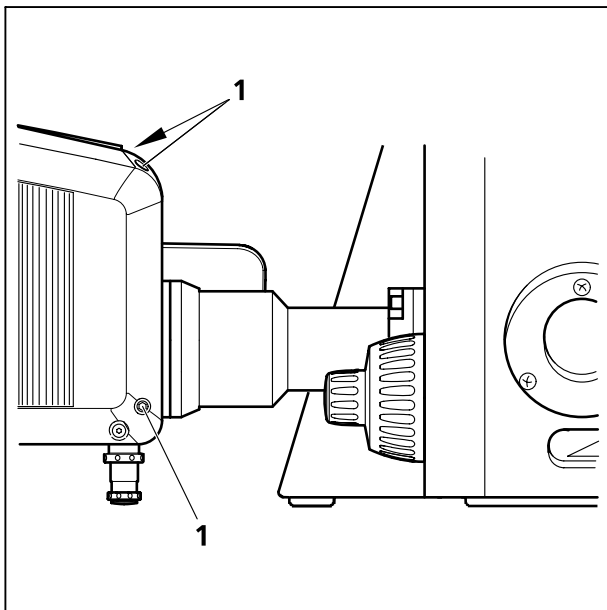
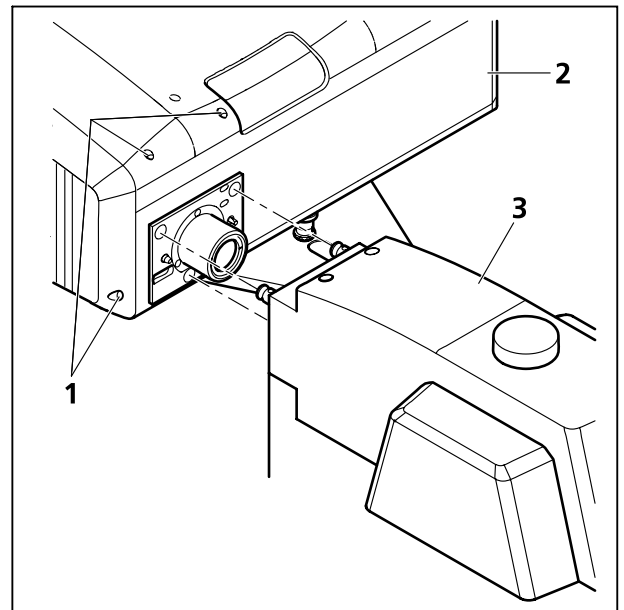

Fig. 7-6 Port connection between LSM and Axio Observer.Z1
Fig. 7-7 Port connection between LSM and Axio Examiner or Axio Imager.Z2
- Loosen the three fastening screws of the LSM 710 (Fig. 7-6/1 and Fig. 7-7/1).
- Slowly pull the scanning module (Fig. 7-7/2) away from the microscope port or the tube (Fig. 7-7/3).
- Fasten the three fastening screws of the LSM 710 (Fig. 7-6/1 and Fig. 7-7/1).